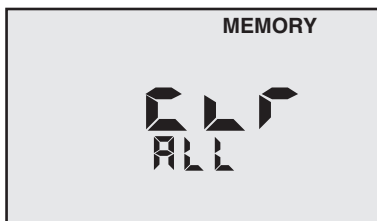

Figure 7
6. To clear **all** records: After pressing , scroll down. "CLF ALL" will be displayed (see Figure 7).